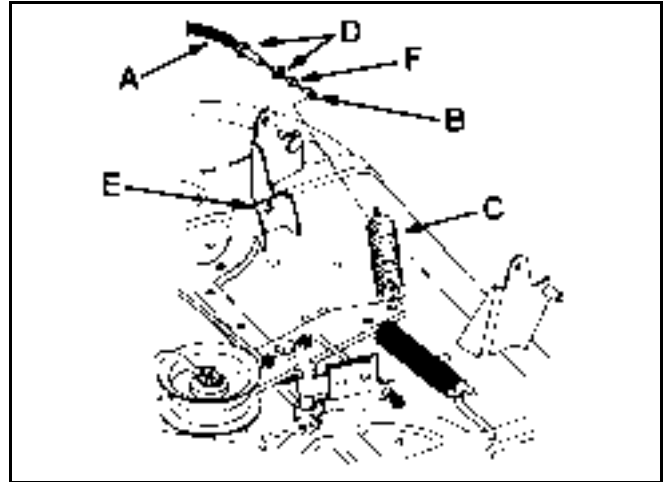

Figure 213
- Unhook the blade control (PTO) cable ring end from the idler spring (Figure 213).
- Remove rubber wiper and jam nut from blade control (PTO) cable at mounting bracket. Slide the cable from the bracket (Figure 213).